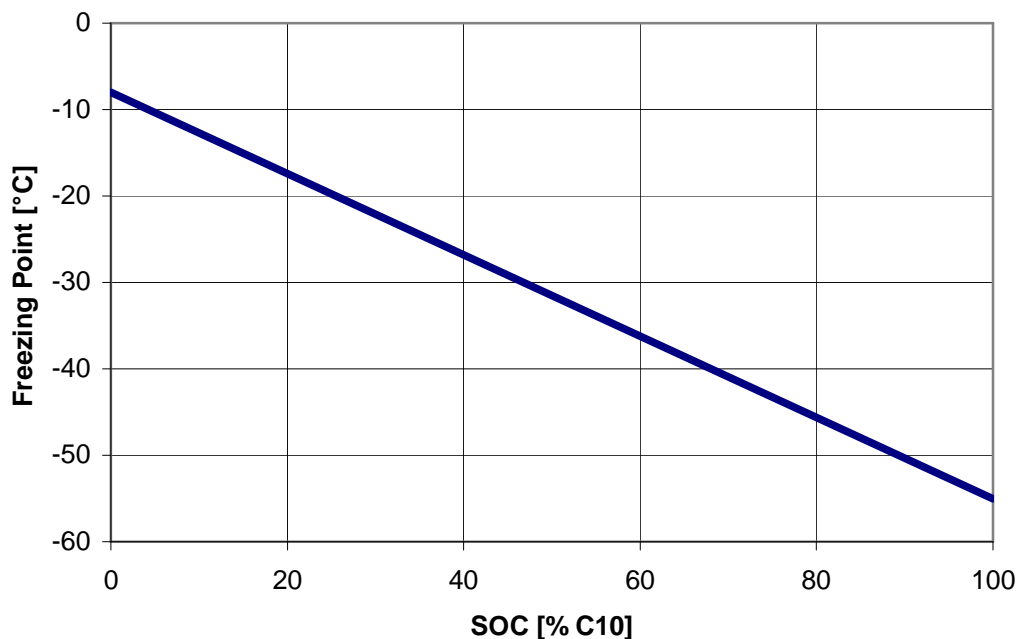

Fig. 12: Electrolyte Freezing Point vs. State of Charge (SOC)
- There is a risk at temperatures of approx. less than -8 °C regarding freezing-in of the electrolyte depending on the depth of discharge and the withdrawn capacity, respectively (see fig. 12).